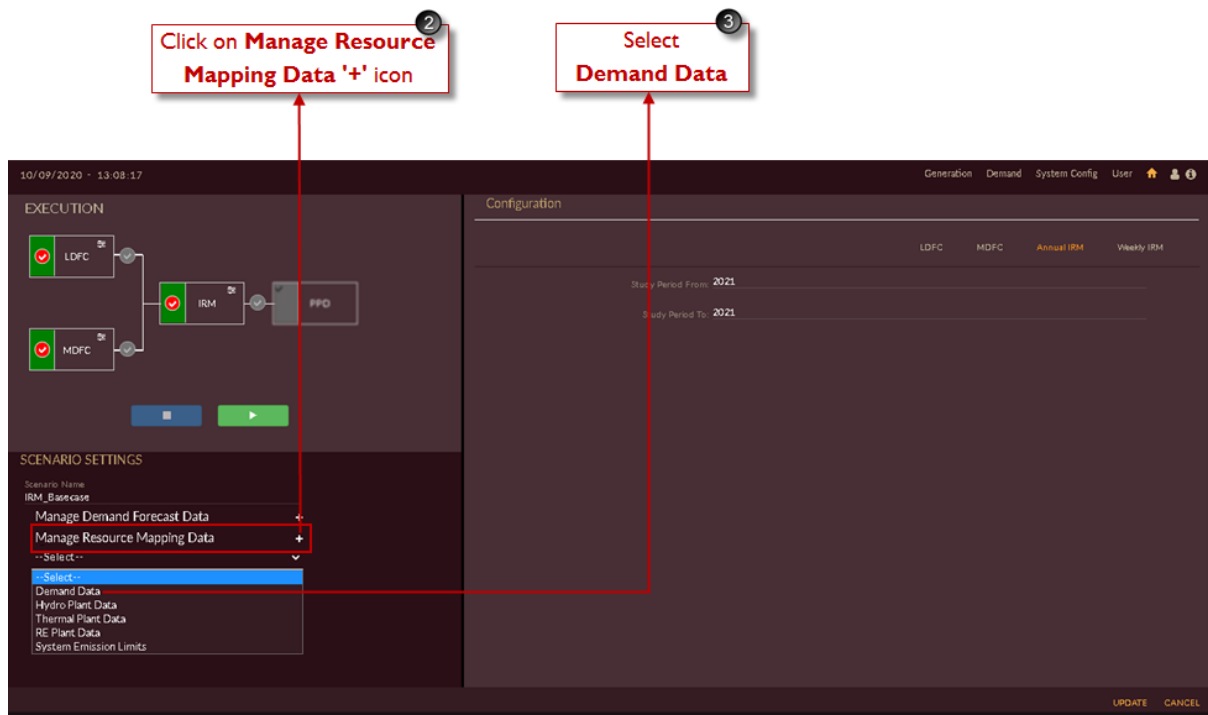

Figure 192. Manage Demand Data
Once you click **Edit scenario**  icon page will appear as shown in Figure 192.
3. Select **Demand Data** from drop-down list as shown in Figure 192.